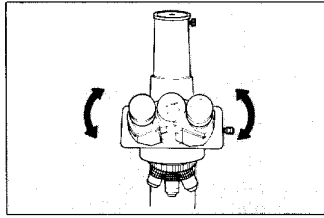

Fig. 3-13
- 13) Adjust the interpupillary distance (Fig. 3-13). (See p. 20, Manipulation of Each Element-5.)